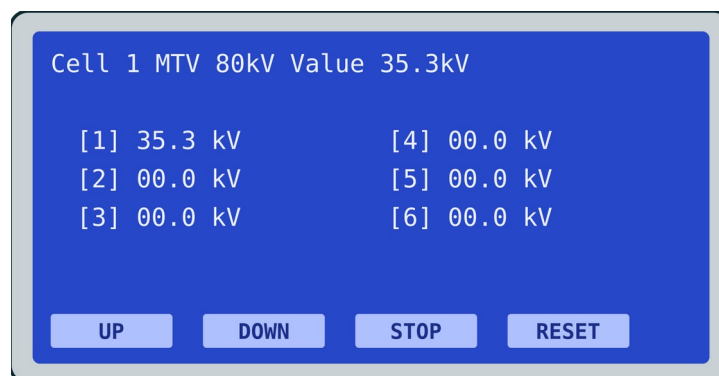

Figure 8 Manual mode after the first breakdown
3. When the oil breaks down, the breakdown voltage is shown (Figure 8), and the instrument removes the voltage and stirs the oil automatically.